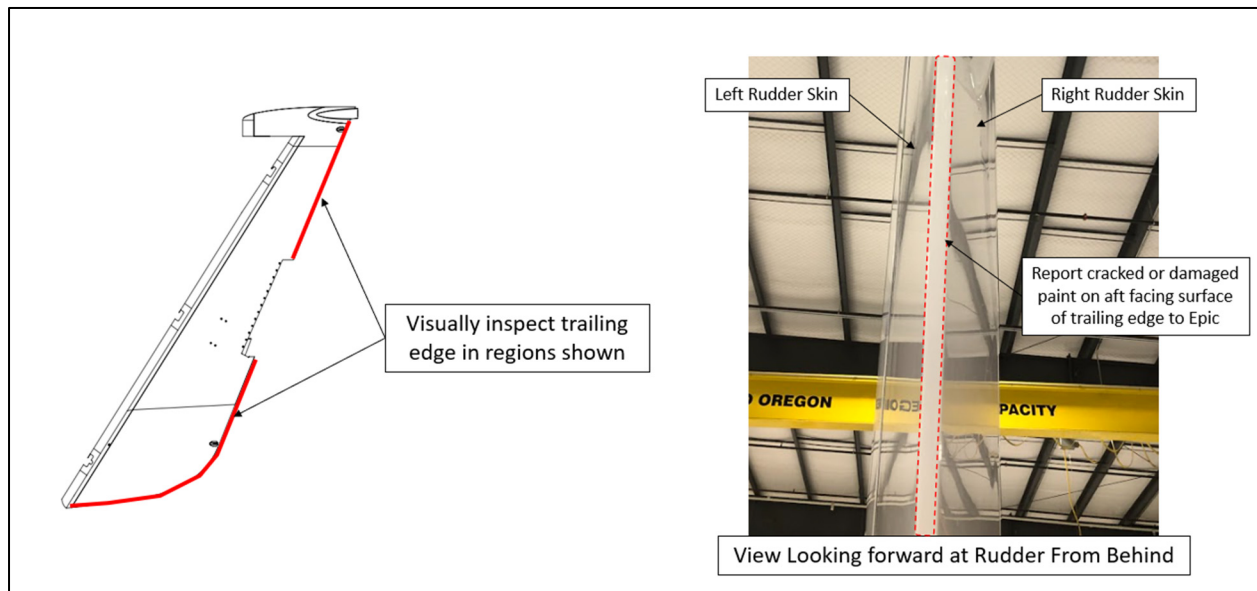

Figure 1: Inspection Region
3. Visually inspect the trailing edge of the Rudder in the regions shown in Figure 1.